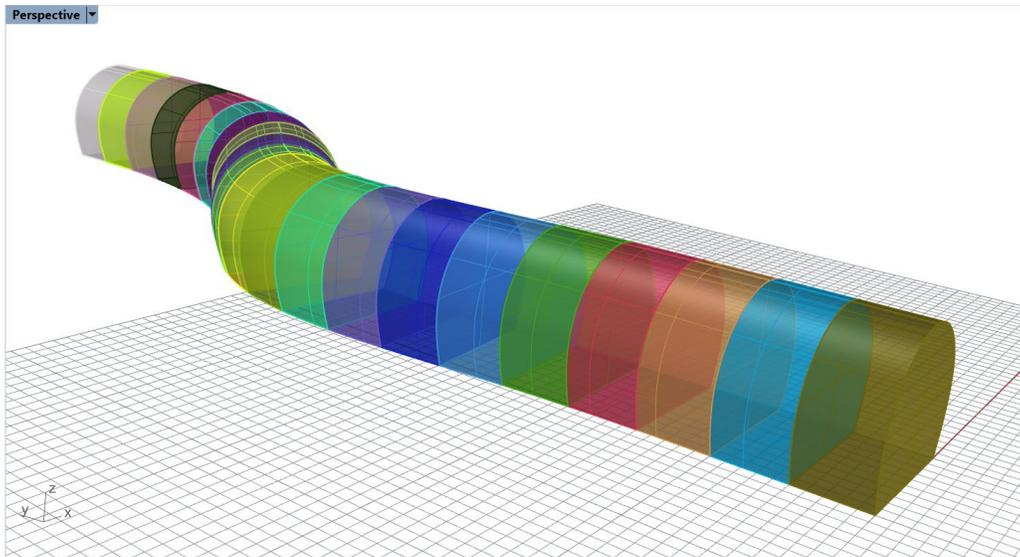

Figure 56: Watertight polysurfaces (solids) representing each excavation stage of the tunnel.
16. Colorize all stages with *Griddle*’s **_ColorizeObjects** command (Figure 56).